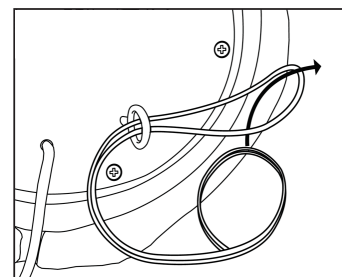

FIGURE 8
3. Feed the opposite end of the nylon security cable through the exposed portion of the cable that was just fed through the security eyelet, as shown in **Figures 8 and 9**.